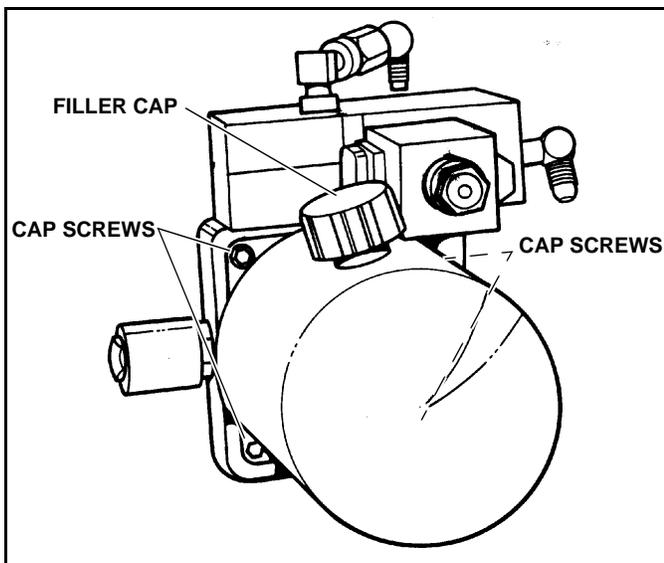

Figure 2-4
- Remove the filler/breather cap from the reservoir. (See Figure 2-4)
- Remove the four cap screws securing the oil reservoir to the pump assembly and remove the oil reservoir. (See Figure 2-4)
- Inspect the O-ring seal for damage, replace if needed, lubricate with fresh oil and reinstall reservoir carefully to avoid damaging the O-ring. Tighten cap screws to 4-6 lbs-ft. (See Figure 2-4)